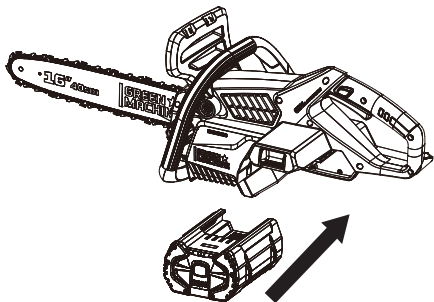

Fig. 3A
3. Align the ribs of the battery pack with the mounting slots in the chainsaw's battery port. Insert the battery pack into battery holder (Fig.3A).